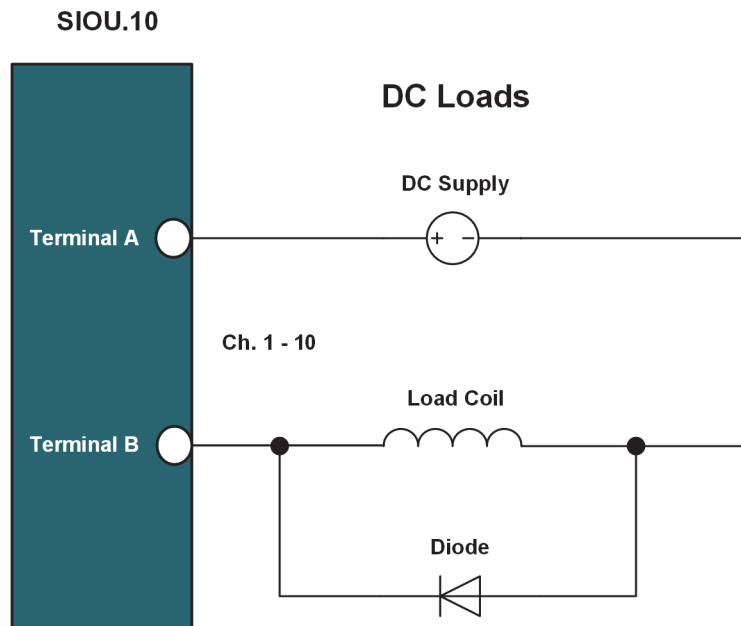

Figure 7-8 SIOU.10 Diode Suppression Circuit with DC Load
- External surge protection is required across the load for inductive loads greater than 60 mH. A suppression circuit for DC loads is shown in Figure 7-8.